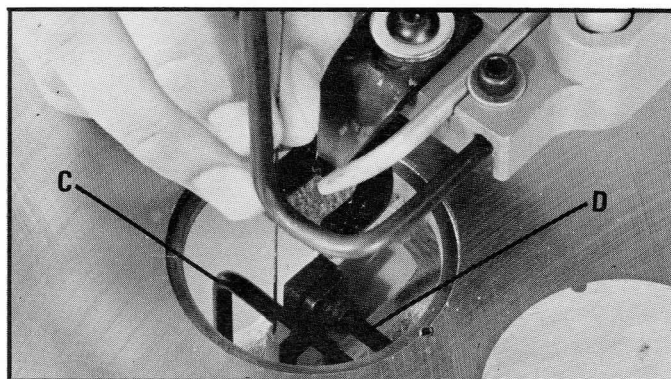

Fig. 17
5. Insert pin (C) in hole in lower blade holder, and loosen blade holder screw using wrench (D) and remove blade, as shown in Fig. 17.